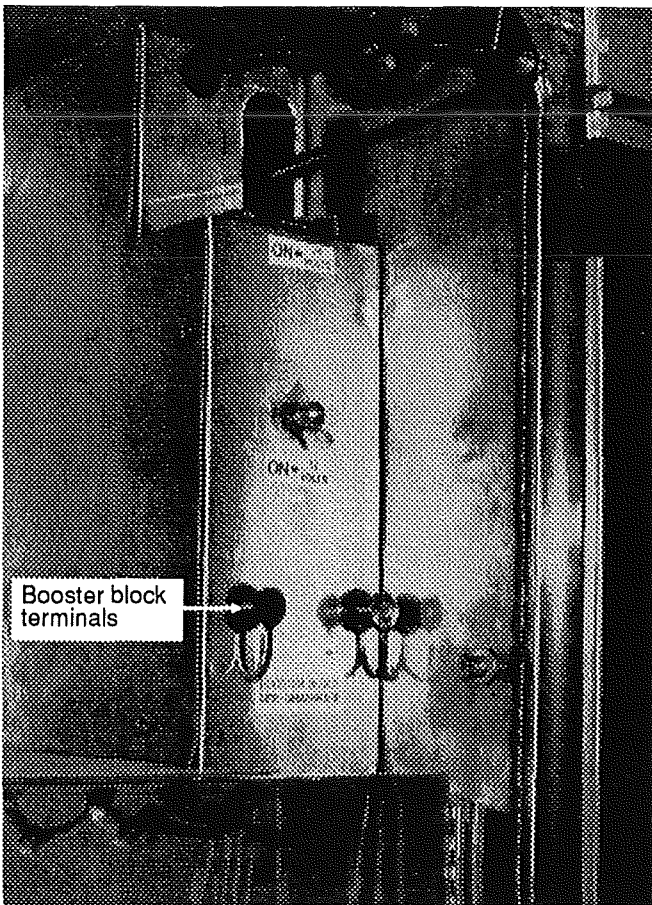

FIG. 17
2. Apply parking brake and place the transmission shift lever or push-button pads in Neutral (N) position in both vehicles. Turn off lights, heater and other electrical loads. Observe the charge indicator. If the indicator in the discharged battery is light, replace the battery. **Do not** attempt jump starting when indicator is light. If the test indicator is dark and has a green dot in the center, failure to start is not due to a discharged battery and the cranking system should be checked. If charge indicator is dark but the green dot does not appear in center, proceed as follows:
3. Connect one end of one red jumper cable to the positive (+) terminal of the booster power source and the other end to the positive (+) terminal of the booster power block, located in second R.H. side baggage compartment of the front section (see fig. 17).